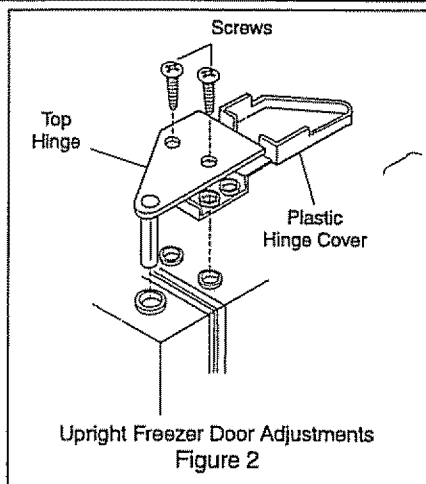

Figure 2
4. At the top of the cabinet, lift up plastic hinge cover, and fold back. (Figure 2)